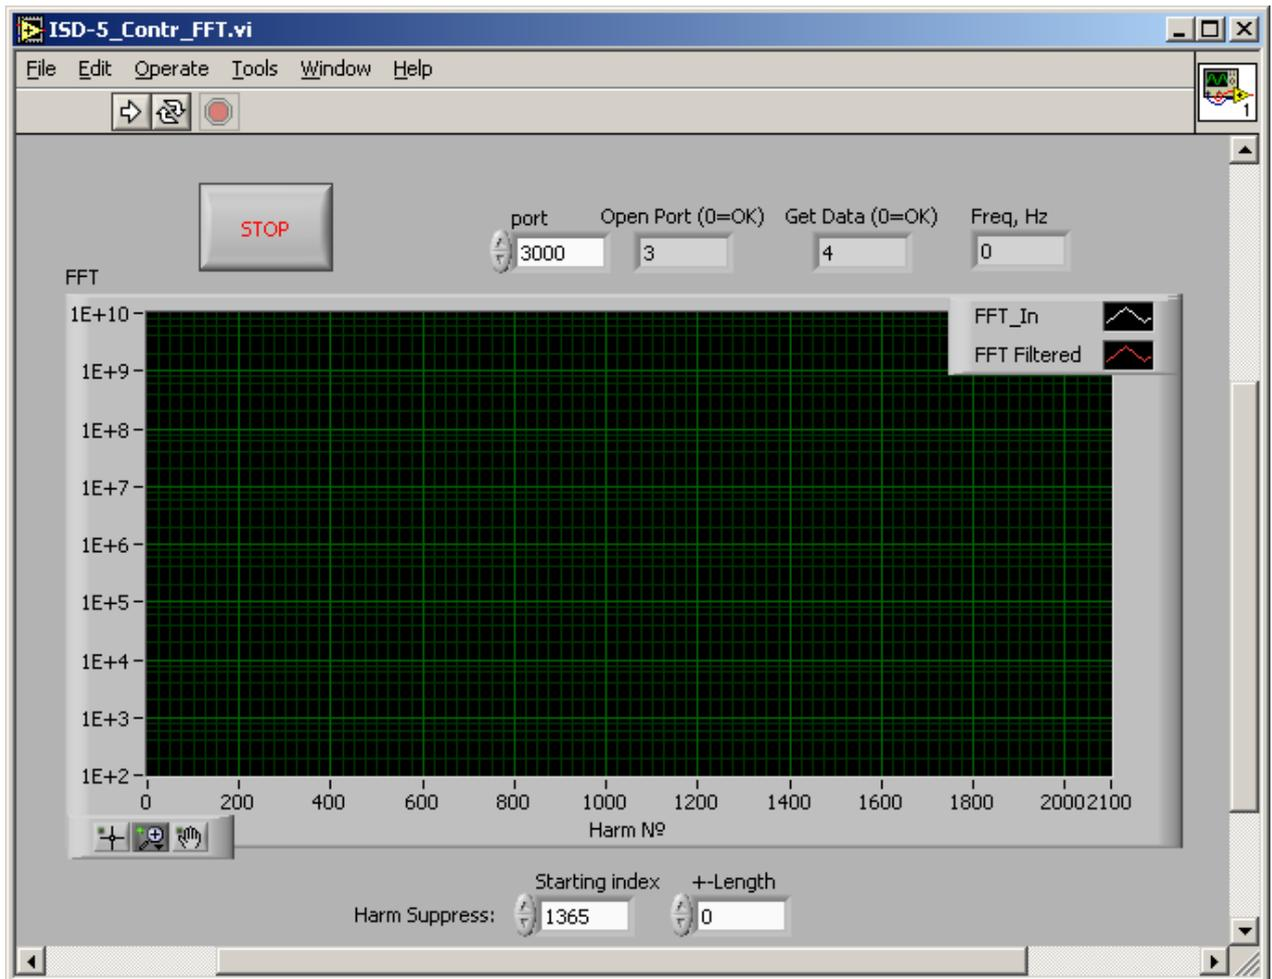

Fig.6. ISD-5\_Contr\_FFT.exe – Sensor diagnostic program.
- 7 – Current S/N and measuring frequency indicators. Normally, at standstill S/N is ab. 4 – 7. If it much more – there are some extra noises or mowing objects in the sensor view area (see 10.3 above). Try to increase S/N in "Algorithm Parameters" or use diagnostic program (see fig.6. below).